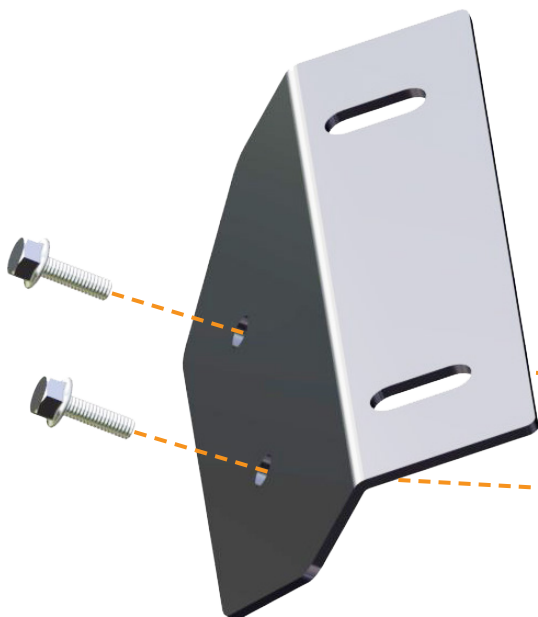

Fig.4a
4. Next you can **Install the Front Bash Plate** onto the machine. Install the front two (2) bolts using the **M6x20 Hex Flanged Bolts** provided in your kit. Install them but do not tightend them down yet. See **Fig.4a-b**.